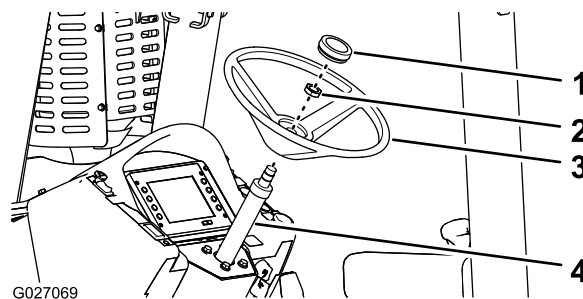

Figure 1
1. Pry the cover out from the hub of the steering wheel (Figure 1).
2. Remove the nut (13/16 inch) that secures the steering wheel to the fixed-steering column (Figure 1).
3. Remove the steering wheel by pulling it away from the column (Figure 1).